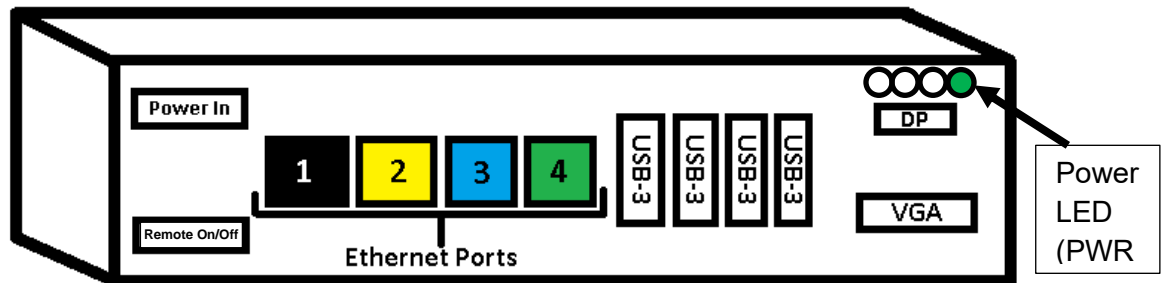

Figure 1 Block diagram of the Vector Control Module (VCM) with color-coded ethernet ports
2. Place the VCM next to the unit, close enough that the ethernet cords can reach the rear of the unit. Use the power cord from the VCM box and plug in the VCM at the Power In connection (top left in Figure 1) and plug other side into wall faceplate.
3. Open the white box labeled “Ethernet Cords” and use the 3 colored cords to connect the VCM to the Grease Thief Analyzer using Figure 1 as a guide. The corresponding colored
4. Open the monitor box and remove its contents. Plug in the monitor and use the included VGA cable to connect the monitor to the VCM into the connector labeled “VGA” in the lower right corner of Figure 1.
6. Verify the VCM is powered on by checking the “PWR” LED is lit. (top right corner of Figure 1). If not, press the power button located on the right-facing side of the VCM when positioned in the same orientation as Figure 1.